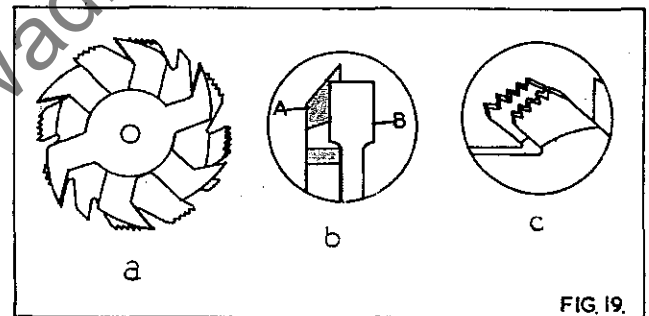

FIG. 19.
A dado head is made up of two outside saws and 5 inner cutters. Various combinations of saw and cutters are used to cut grooves from  $\frac{1}{8}$ " to 1" wide (3mm to 25mm). Inner cutters are heavily swaged and must be arranged so that the heavy portion falls in the gullets of the outside saw as shown on Fig. 19 (1), Fig. 19 (b) shows how the saws and cutters overlap "A" being the saw and "B" being the inside cutter. A  $\frac{1}{4}$ " (6mm) groove is cut by using the two outside saws fitting the ground teeth directly opposite as shown in Fig. 19 (c) in order to allow clearance for the slight set of the saw teeth.